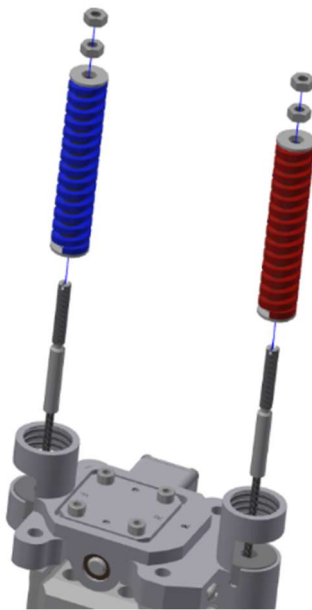

Figure 4-8. Jam nut removal
- 4.2.2 Remove the four jam nuts (5000515) from the top of the front and rear neck cables (Figure 4-8). Remove the front and rear spring assemblies.